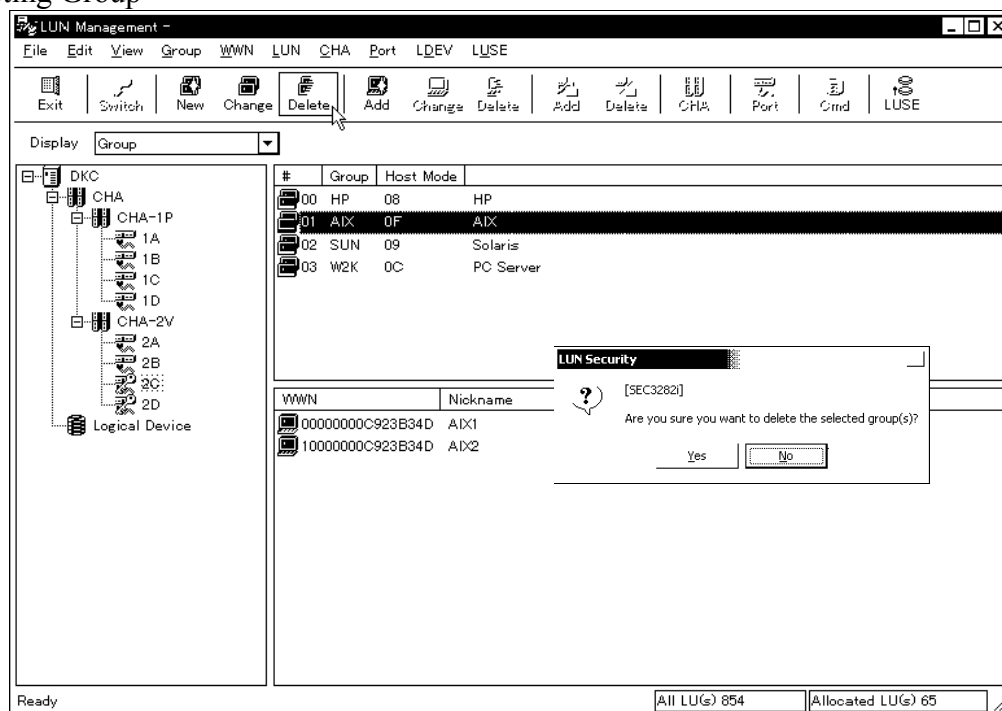

Figure 3.3.1 Main Window
- ① Select (CL) a group you want to delete from the upper right list.
- ② Select (DR) [Delete] from the [Group] menu in the Main window (Figure 3.3.1).
- ③ Since a message asking for a confirmation is displayed, select (CL) the [OK] button.
- ④ Information on the group that has been selected from the upper right list is deleted. Moreover, the details of the group information (WWN/LUN) is also deleted.